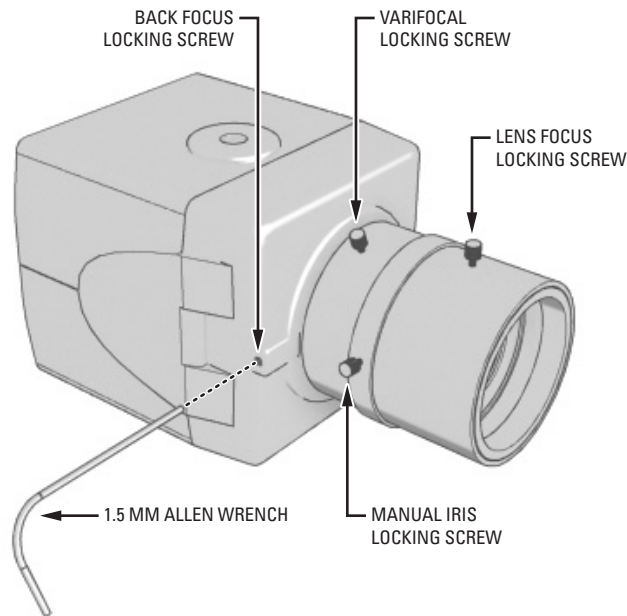

Figure 8. Lens Focus
1. **Auto iris only:** Cover the auto iris lens with a suitable neutral density (ND) filter; this opens the iris fully. For best results, use an ND3 filter.
2. **Manual iris only:** Open the iris completely. Figure 8 shows the manual iris, varifocal, and lens focus locking screws for a sample lens. Refer to your lens documentation for more information.